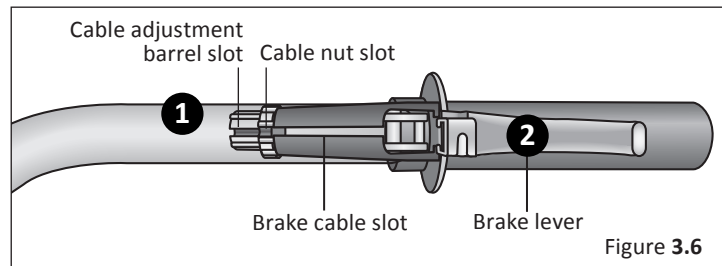
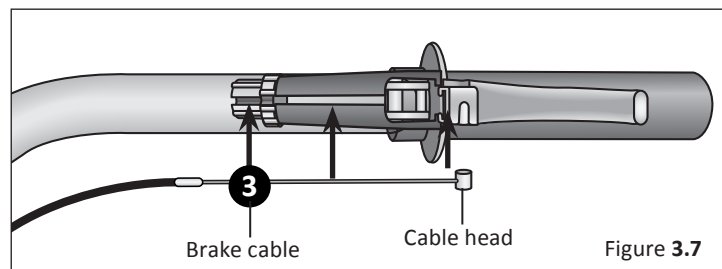

Figure 3.6
Figure 3.7
- ❶ Rotate the cable adjustment barrel and cable nut until the slots are aligned with the slot on the brake lever body. Figure 3.6
- ❷ Press the brake lever towards the grip.
- ❸ Insert cable head into the brake lever then rotate making sure cable goes through the slots. Figure 3.7